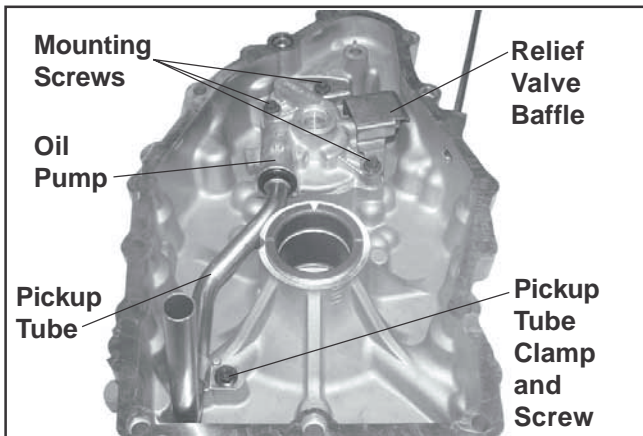

Figure 9-17. Installed Oil Pump and Pickup Tube.
5. Lightly lubricate the I.D. of the inlet seal with oil and carefully insert the ferruled end of the pickup tube through the grommet, into the oil pump housing. Position the pickup tube so the outboard end faces up. See Figure 9-17.
8. Torque the clamp (pickup tube) mounting screw to **10.7 N·m (95 in. lb.)** into a new hole, or **7.3 N·m (65 in. lb.)** into a used hole. See Figure 9-17.